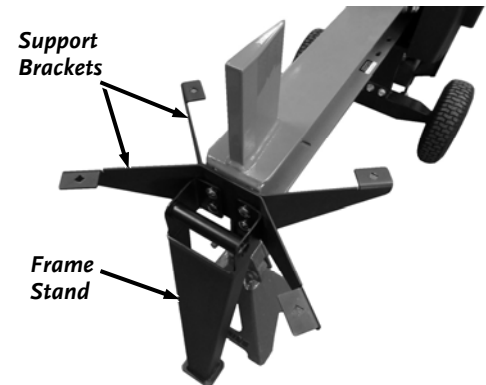

Figure 3
1. Support the Beam of the Log Splitter with a Jack Stand or equivalent (**Figure 3**).